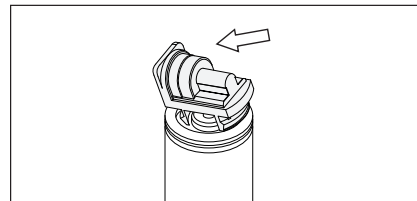

Figure 6
3. Attach the metering valve to the top of the fuel cell with the stem pointing away from your face and body (see Figure 6).
4. Insert the front ridge of the metering valve into the lip of the fuel cell (see Figure 6).